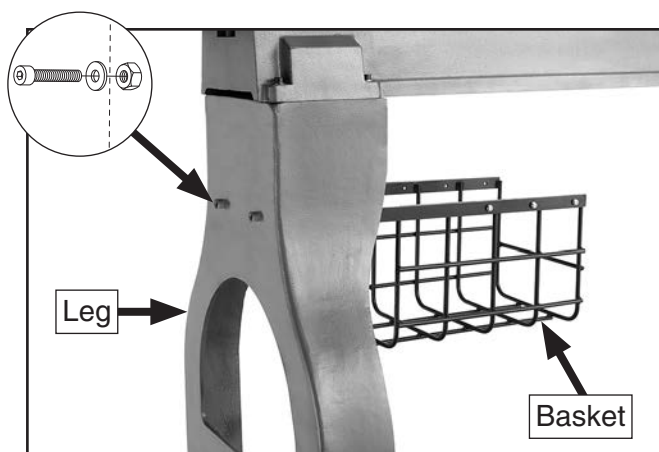

Figure 17. Basket attached to leg.
10. Attach storage basket to leg using (2) M8-1.25 x 35 cap screws, (2) 8mm lock washers, and (2) M8-1.25 hex nuts, as shown in **Figure 17**.